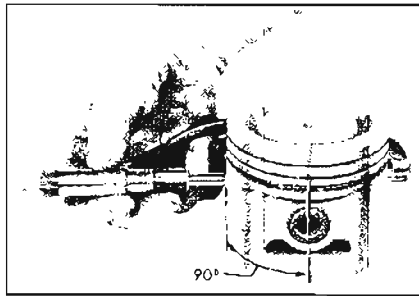

Figure 2-83—Measuring Piston
The pistons are cam ground, which means that the diameter at a right angle to the piston pin is greater than the diameter parallel to the piston pin. When a piston is checked for size, it must be measured with micrometers applied to the skirt at points 90° to the piston pin. See Figure 2-83. The piston should be measured (for fitting purposes) 1/4 below the bottom of the oil ring groove.
Before the honing or reboring operation is started, measure all new pistons with micrometer contacting at points exactly 90 degrees to piston pin (Figure 2-83) then select the smallest piston for the first fitting. The slight variation usually found between pistons in a set may provide for correction in case the first piston is fitted too free.
3. Measure the piston to be installed. See Figure 2-83. The piston must be measured at right angles to the piston pin 1/4" below the oil ring groove. The piston must be between .001" and .0015" smaller than the cylinder bore.